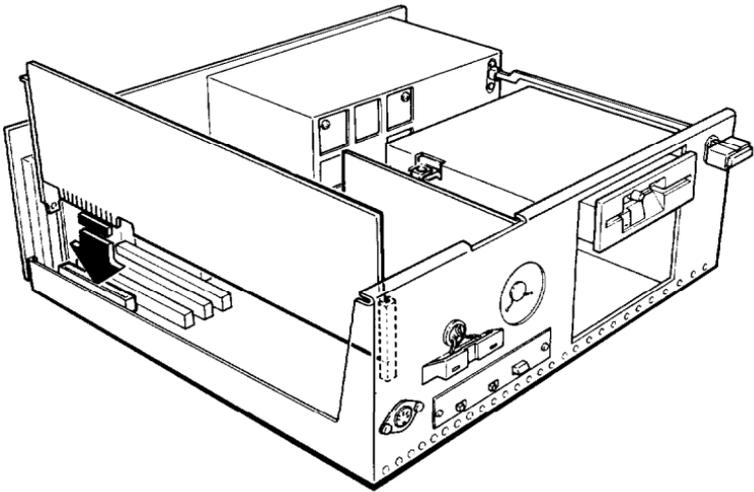

Figure 4-7. Inserting an option card
4. Insert the card in the slot as shown in Figure 4-7. When the card is almost all the way in, make sure the tab at the bottom of the metal adapter plate on the end of the card goes into the corresponding notch at the back of the computer.